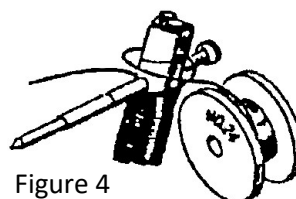

Figure 4
- ✎ Start at the shaft and wind No. 24 enameled wire to one end and back. Then do the same on the other end. Always wind in the same direction. Leave 6" of spare wire at start and finish as shown in *Figure 4*.